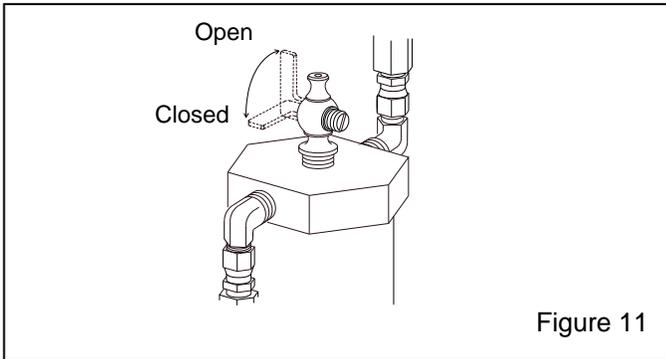

Figure 11
**3.2.9** Make sure that the safety petcock located on the inlet valve is open. Open position is when the lever is aligned with the petcock, as shown in Figure 11.